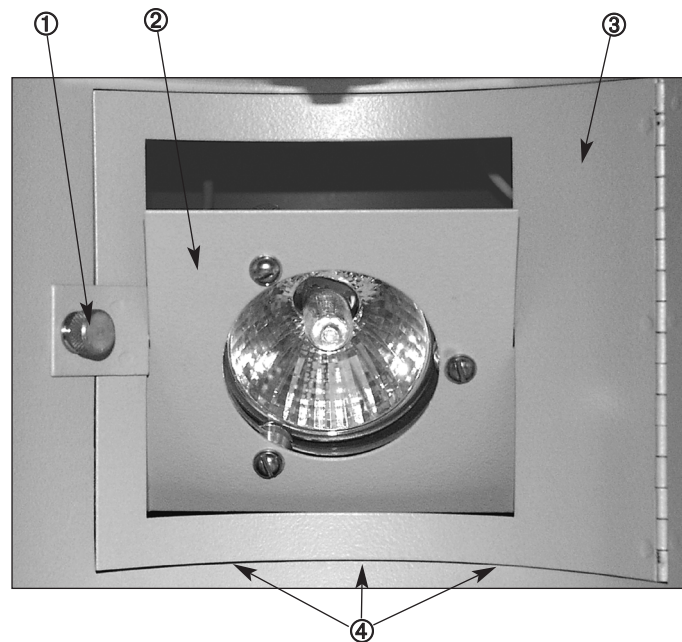

FIGURE 2
To ensure optimum curing of all Triad Materials, it is important to position the Triad appliance at the proper height within the curing chamber. In the Triad 2000 unit, the alignment sightline is the lowest edge of the lamp access door. (Refer to Figures 2 and 3.)
2. Set height of turntable using the lift knob (on top) and the optimum cure "sightline" shown in Figures 2 and 3 for maximum light cure.